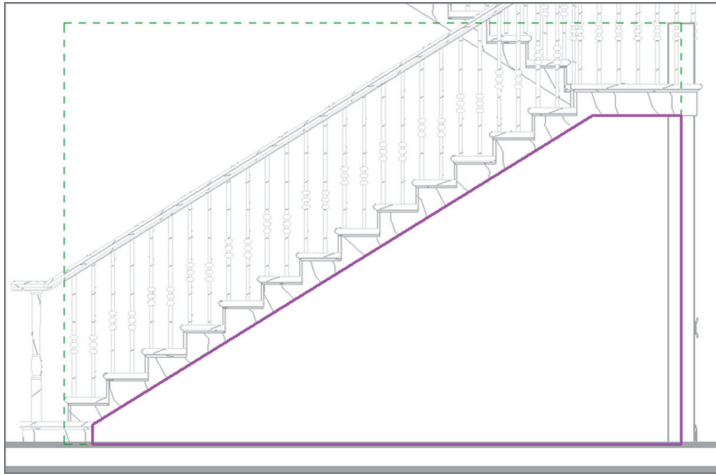

FIGURE BC1.14: Cleaning up the lines so that they form a continuous loop
8. Delete the existing top magenta line and the existing left magenta line by selecting them and pressing the Delete key. All you should have left is the profile shown in Figure BC1.14.